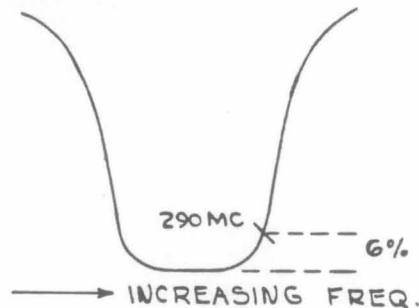

Figure 5-20. Type 901 Receiver, Typical Response Curve V502 to V503 Interstage Alignment, Receiver Dial at 290 mc, Bottom Cover On
- (4) Set the oscilloscope vertical sensitivity to 10 mv per cm and the vertical input to the ac-coupled position.
- (5) Set the oscilloscope horizontal sensitivity so that the total trace of the horizontal sweep is 10 cm.
- (6) Set the receiver dial to 290 mc and sweep generator to approximately 290 mc.
- (7) Using a calibrated 290-mc marker from the Hewlett-Packard 608D signal generator as a marker, adjust C512, C516, and C515 for a symmetrical flat-topped response with the 290-mc marker appearing 6% down on the higher frequency slope as shown in Figure 5-20.